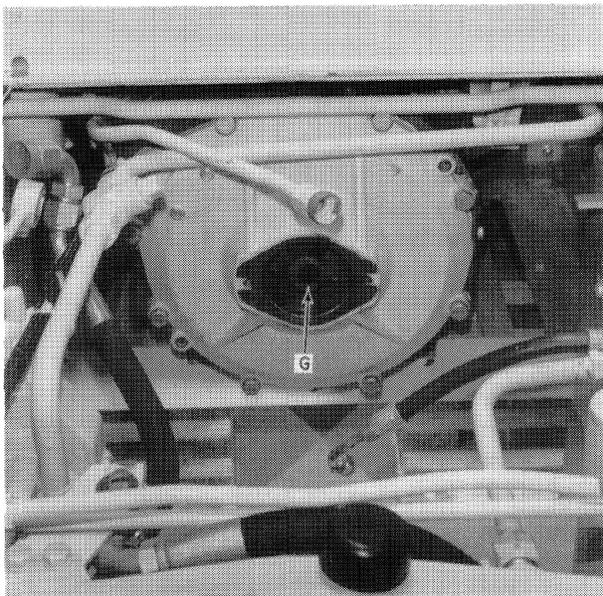

FIGURE 3-5
9. Remove the two mounting bolts, E, Figure 3-4, and slide the hydrostatic pumps out of spline, G, Figure 3-5.